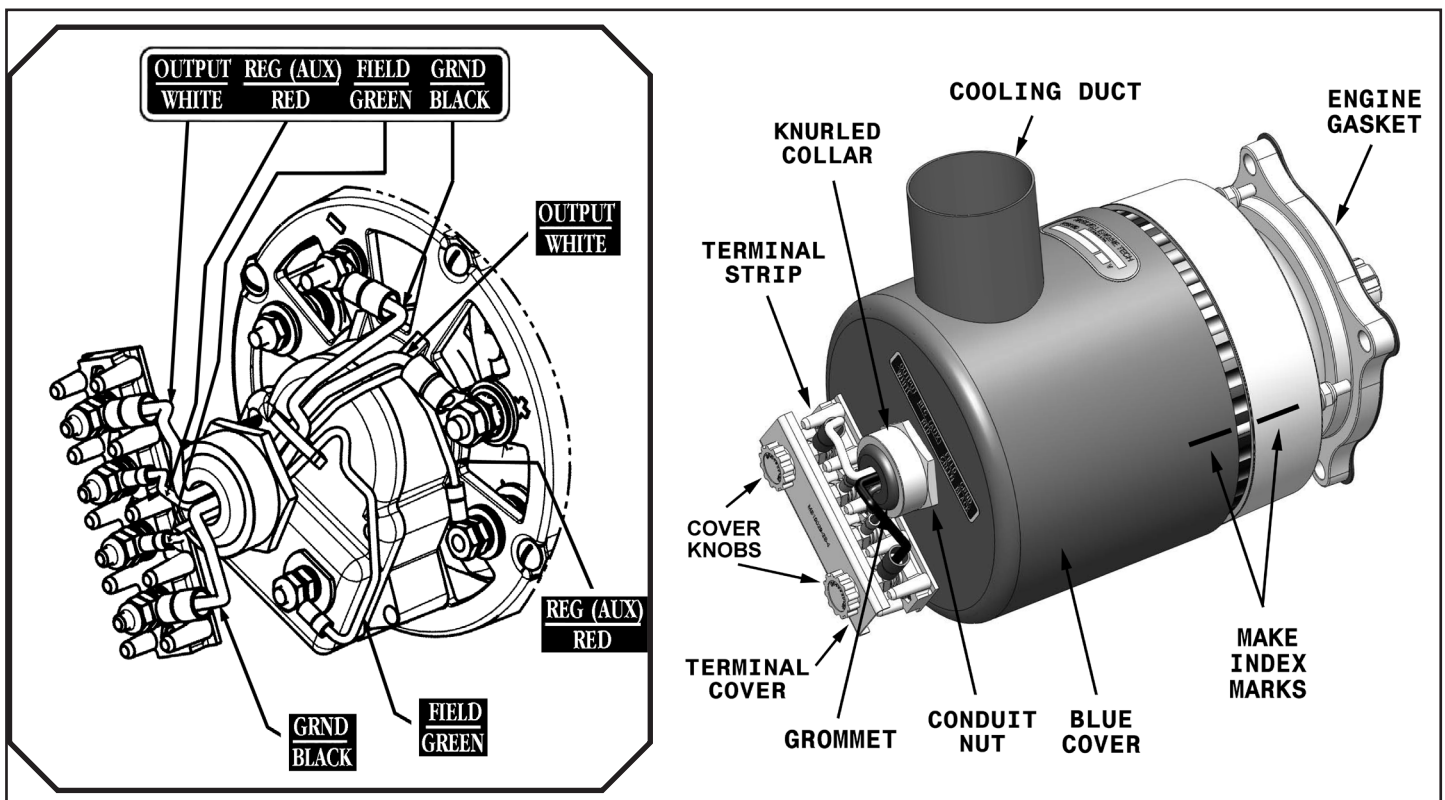
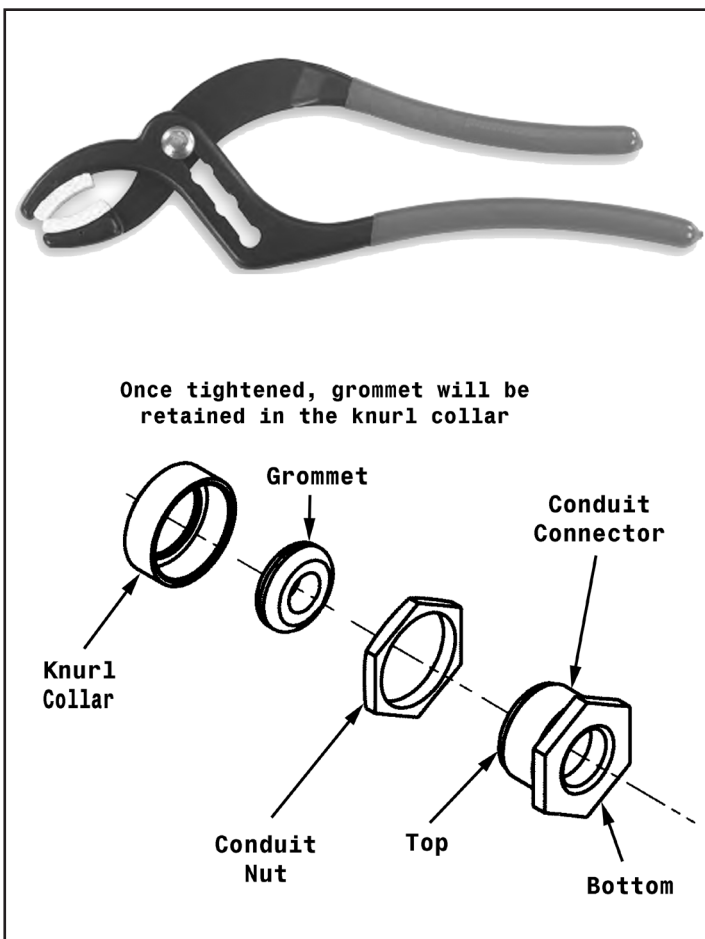
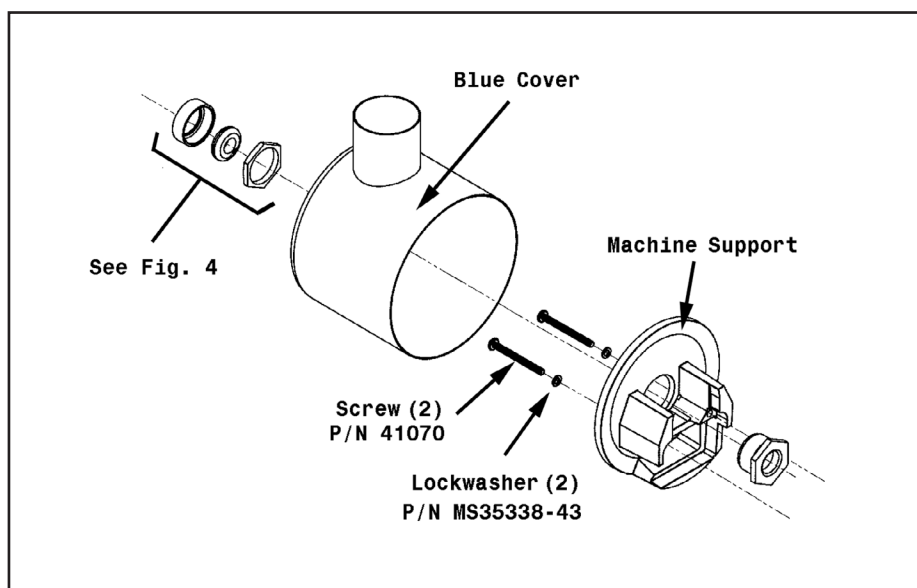

Figure 2 - Component Identification
Figure 4 - Soft Jaw Connector Plier & Connector Stack Up
Figure 5 - Machine Support Removal
- (13) Install each wire on the terminal strip stud that corresponds to the color of the wire and the color listed on the placard above the terminal strip. Refer to Fig. 2.
- (14) Install each AIRCRAFT wire on the terminal strip stud that corresponds to the function of the wire as marked and as listed on the placard above the terminal strip. Refer to Fig. 2.
- (15) Put the terminal strip protective cover on the terminal strip and tighten the knobs.
- (1) The electrical harness wire replacement may be performed with the alternator mounted to the engine if sufficient space is available. If not, remove the alternator for this procedure.
- (2) Disconnect aircraft battery and other sources of electrical power.
- (3) Loosen the terminal strip protective cover knobs and remove the cover. Refer to Fig. 2.
- (4) Remove and discard the four nylon insert lock nuts from the terminal strip wire studs.
- (5) Remove the four AIRCRAFT wires from the stud.
- (6) Remove and retain the four 10-24 jam nuts and washers from the terminal strip wire studs.
- (7) Remove the four color coded wires from the terminal studs and pull them straight.
- (8) Put an index mark on the blue cover extending onto the drive end housing. Refer to Fig. 2.
- (9) Using a soft jaw connector plier, loosen the knurl collar completely. Refer to Fig. 4.
- (10) Pull and remove the knurl collar with retained grommet from the conduit connector. This allows removal of the blue alternator cover to expose the other end of the wire harness. Refer to Fig. 2.
- (11) Place a narrow, flat ended bucking bar or chisel into the cooling duct of the blue alternator cover to hold the conduit connector hex nut end.
- (12) Using a spanner wrench, loosen and remove the conduit connector nut. Refer to Fig. 4.
- (13) Remove the blue alternator cover to expose the wire harness connections. Refer to Fig. 2.
- (a) Cut the small cable tie that secures the wire harness. Refer to Fig. 2.
- (14) With the rectifier plate exposed, locate the white power wire and remove the 1/4 inch jam nut and lock washer.
- (15) Remove the white power (+) wire and replace it with the new white wire (P/N 41072-5) from HET Kit P/N 79903 if alternator is model 7655T only or white wire (P/N 41072-1) from HET Kit P/N 79902 for alternator models 6555T, 6565T, 7555T, and 7565T.
- (16) Remove the black ground (-) wire and replace it with the new P/N HET P/N 41072-2 wire.
- (17) Remove the red field wire and replace it with the new P/N HET P/N 41072-3 wire.
- (18) Remove the green AUX wire and replace it with the new P/N HET P/N 41072-4 wire.
- (b) If torque of the green AUX wire nut cannot be achieved, it is permissible to remove the machine support by removing the two HET P/N 41070 screws and lockwashers. Refer to Fig. 5.
- (20) With the new wire harness extending through the conduit connector, put the blue cover onto the alternator assembly and align it with the index mark applied in step 3.C(8). Refer to Fig. 2.
- (21) Put a narrow, flat ended bucking bar or chisel into the cooling duct of the blue alternator cover to hold the conduit connector hex nut.
- (22) Put wire harness through the conduit nut and carefully thread it onto the conduit connector.
- (23) Put each wire of the wire harness through the grommet in the Knurl Collar and move down to the conduit connector.
- (24) Put the knurl collar with the retained grommet onto the conduit connector threads.
- (a) Tighten the knurl collar finger tight then 1/4 turn more. Refer to Fig. 4.
- (25) Install each wire on the terminal strip stud corresponding to the color of the wire and the color listed on the placard above the terminal strip.